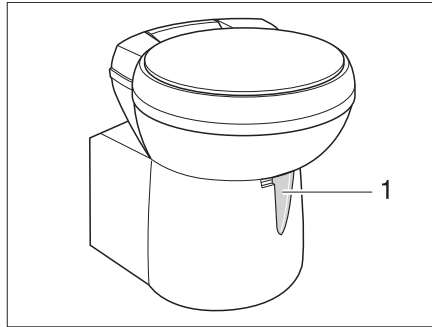
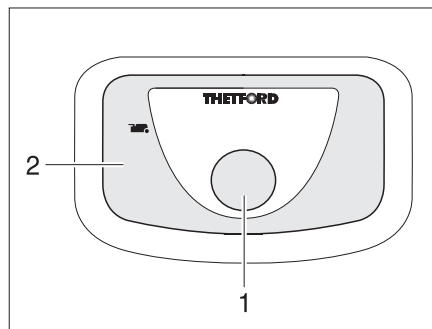

Fig. 347 Thetford toilet bowl, swivelling
Fig. 348 Flush button/indicator lamp
- Before flushing open the sliding trap of the Thetford toilet. To do this, push the slide lever (Fig. 347,1 or Fig. 348,1) in an anticlockwise direction.
- For flushing, press the blue flush button (Fig. 347,1 or Fig. 348,1).
The indicator lamp (Fig. 347,2 or Fig. 348,2) goes on whenever the Thetford cassette has to be emptied.
- Push the slide lever (Fig. 347,1 or Fig. 348,1) in a clockwise direction. The sliding trap is closed. To empty, the sliding trap in the Thetford toilet **must** be closed.